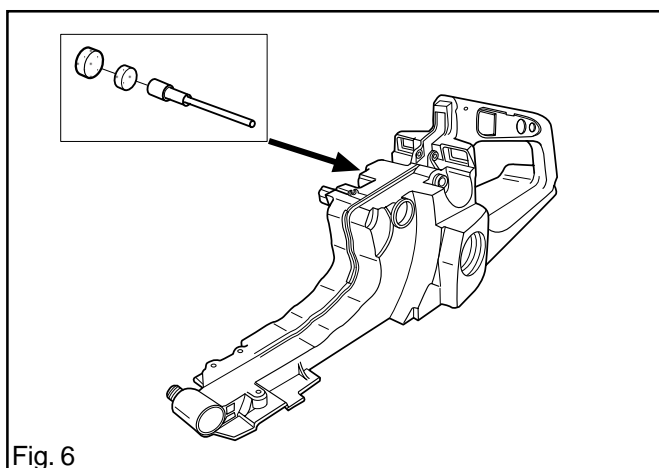

Fig. 6
5. The vent for the fuel tank is placed on the right-hand side of the tank. See fig. 6.